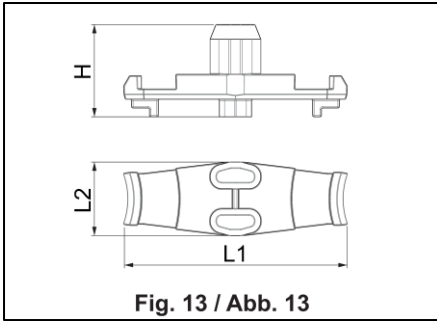

Fig. 13 / Abb. 13
- stainless steel latch (fig. 13)